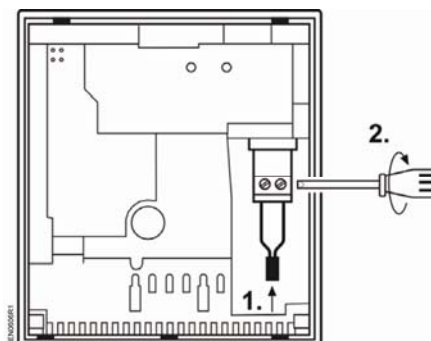

Figure 6. Installing the Sensing Element.
1. Insert the element as shown in Figure 6.